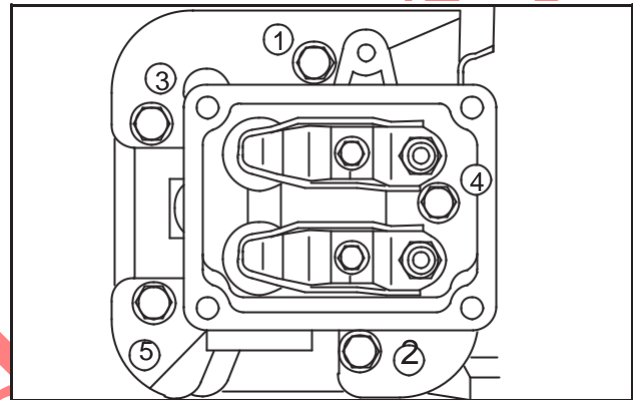

Fig. 15 – Install Cylinder Head
2. Install cylinder head assembly, Fig. 15.